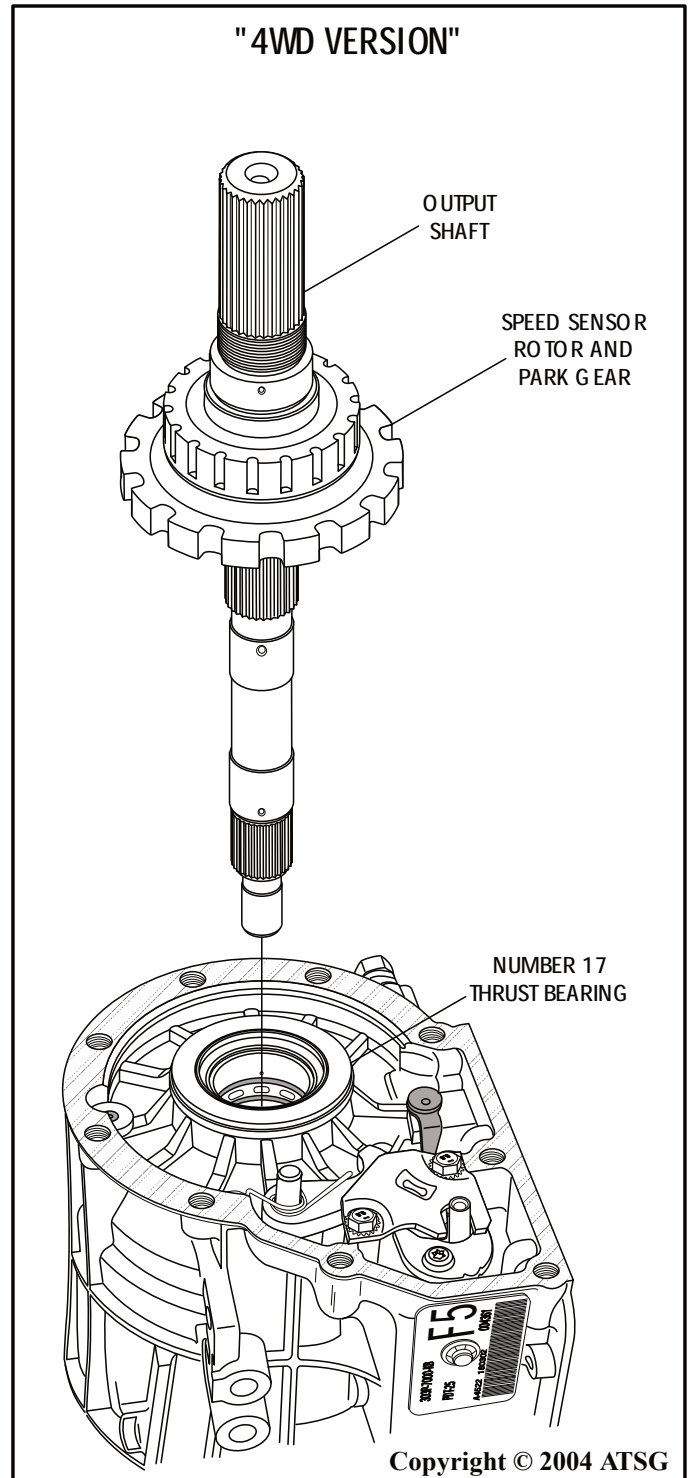

Figure 64
22. Install the output shaft and park gear assembly into the transmission, as shown in Figure 64.